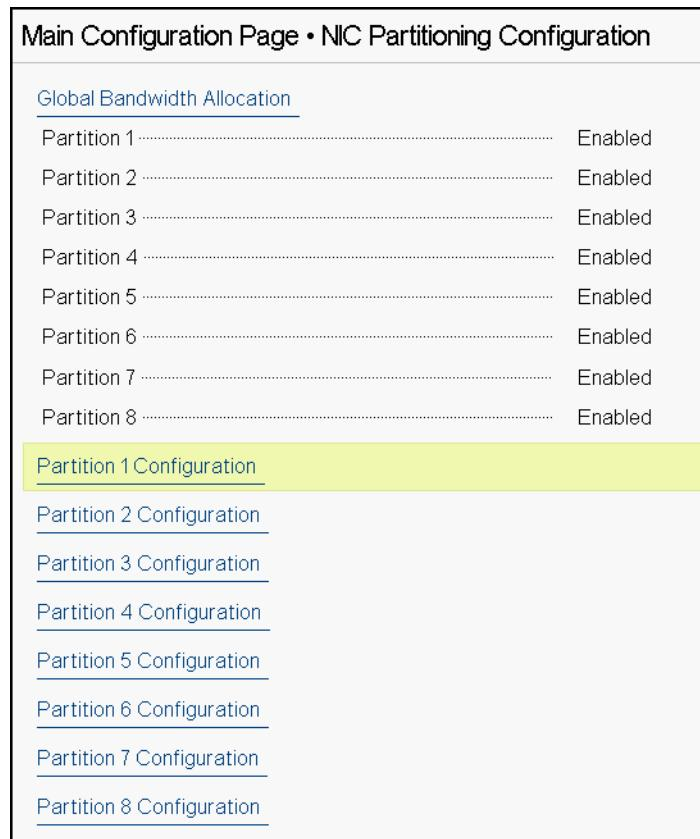

Figure 5-15. NIC Partitioning Configuration, Global Bandwidth Allocation
2. On the Partitions Configuration page (Figure 5-15), select **Global Bandwidth Allocation**.
1. To examine a specific partition configuration, on the NIC Partitioning Configuration page (Figure 5-15 on page 55), select **Partition n Configuration**. If NParEP is not enabled, only four partitions exist per port.